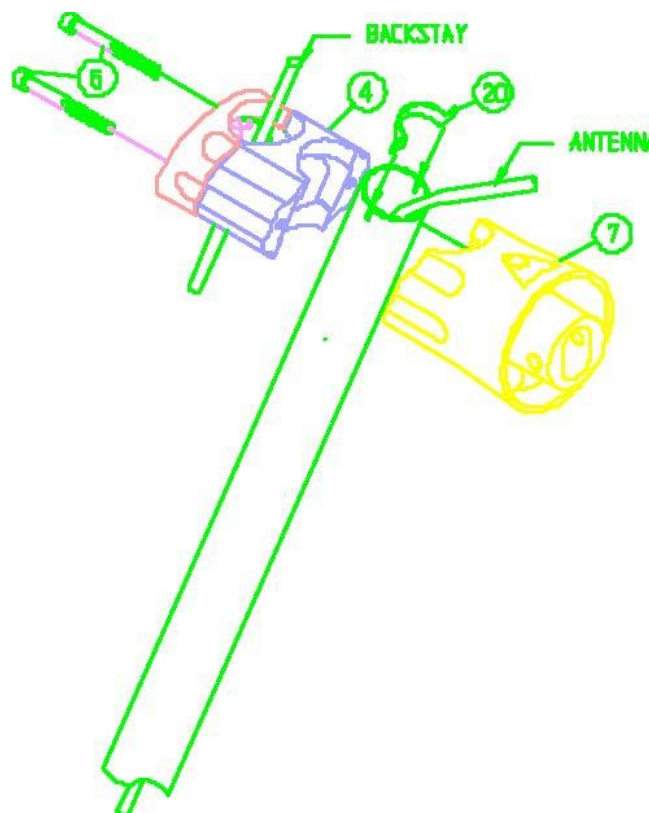
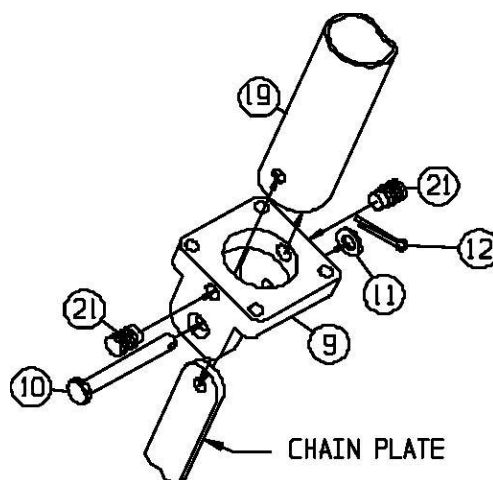

Figure 6
FIGURE 8
Note: For configurations #5 & #6 the Pole Base (9) must be assembled to the end of the Mounting Pole (19) using two Dog Setscrews (21). The unthreaded portion of each Setscrew must be inserted into the two 3/8" holes of the Mounting Pole.(Figure 8)
K. Feed the radar antenna cable through the bottom of the Mounting Pole (19), or through the Grommet in the lower slot and exit either from the Grommet in the upper slot or through the top of the Mounting Pole. The upper wire slot exit should be on the side **OPPOSITE** the Damper Assembly.
L. Insert the Anti-rotation Clip (20) into the slots of the Mounting Pole (19), (Figure 6).
M. Remove the Allen Cap Screw (6) from the Pivot Base Cone (7) and place the Cone aside. Attach the Mounting Pole (19) to the Pole Base (9) using the Clevis Pin (10), Clevis Pin Washer (11), and the Cotter Pin (12). Using a step ladder in the cockpit, slide the Pivot Base Assembly up the backstay and re-assemble the Pivot Base Cone. The Anti-rotation Clip tabs should be clamped between the Pivot Base Cone (7) and the Mid Spacer (4). Remove each clamping screw one at a time, apply Loctite, and reinstall each screw, alternately tightening each one, so that the gap between the three parts of the Pivot Damper Assembly are equally spaced. (Figure 6).
O. Feed the backstay through the top of the Mounting Pole (19). With the assistance of another person or with the main halyard, raise the pole and reconnect the turnbuckle to the backstay. Remove the two Dog Setscrews (21) from the Pole Base (9), pass the turnbuckle through Pole Base and re-connect the lower end of the turnbuckle to the chain plate, inserting the Clevis Pin (10) through the Pole Base, turnbuckle, chainplate and Pole Base again. Re-tension the backstay to the desired tension and then slide the Mounting Pole (19) into the Pole Base. Re-install the two Dog Setscrews (21) applying Loctite to each and tighten (Figure 8).